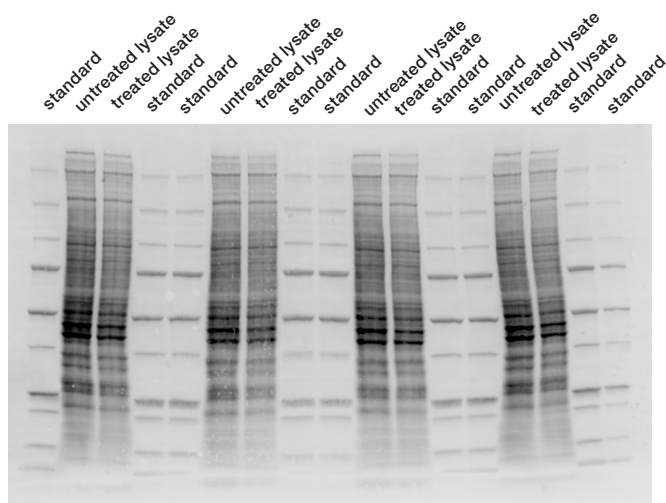

Fig. 3. Stain-free technology image. The membrane was imaged with a stain-free enabled imager prior to chemiluminescent detection.
- **Capture a stain-free image of the gel** using Bio-Rad's ChemiDoc Imager System and Image Lab Software (Figure 3). Stain-free imaging technology is fast – trihalo compounds incorporated into the gel make the proteins fluoresce upon photoactivation (Yadav and Liu 2014), providing the protein contains at least two tryptophan residues